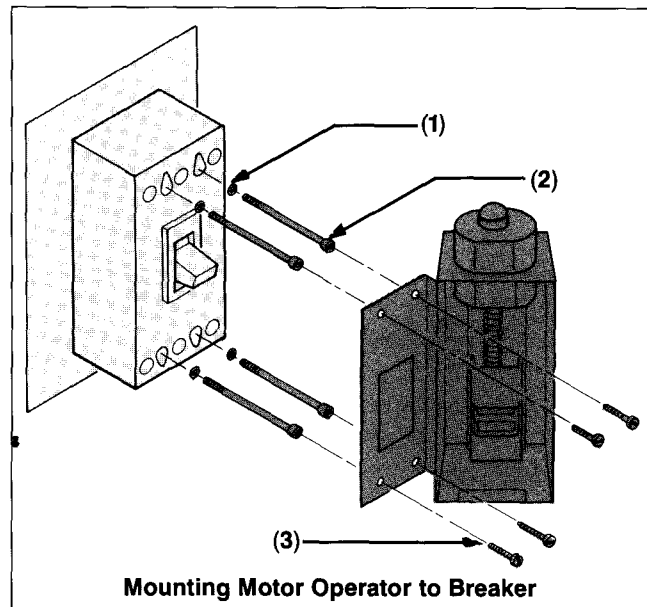
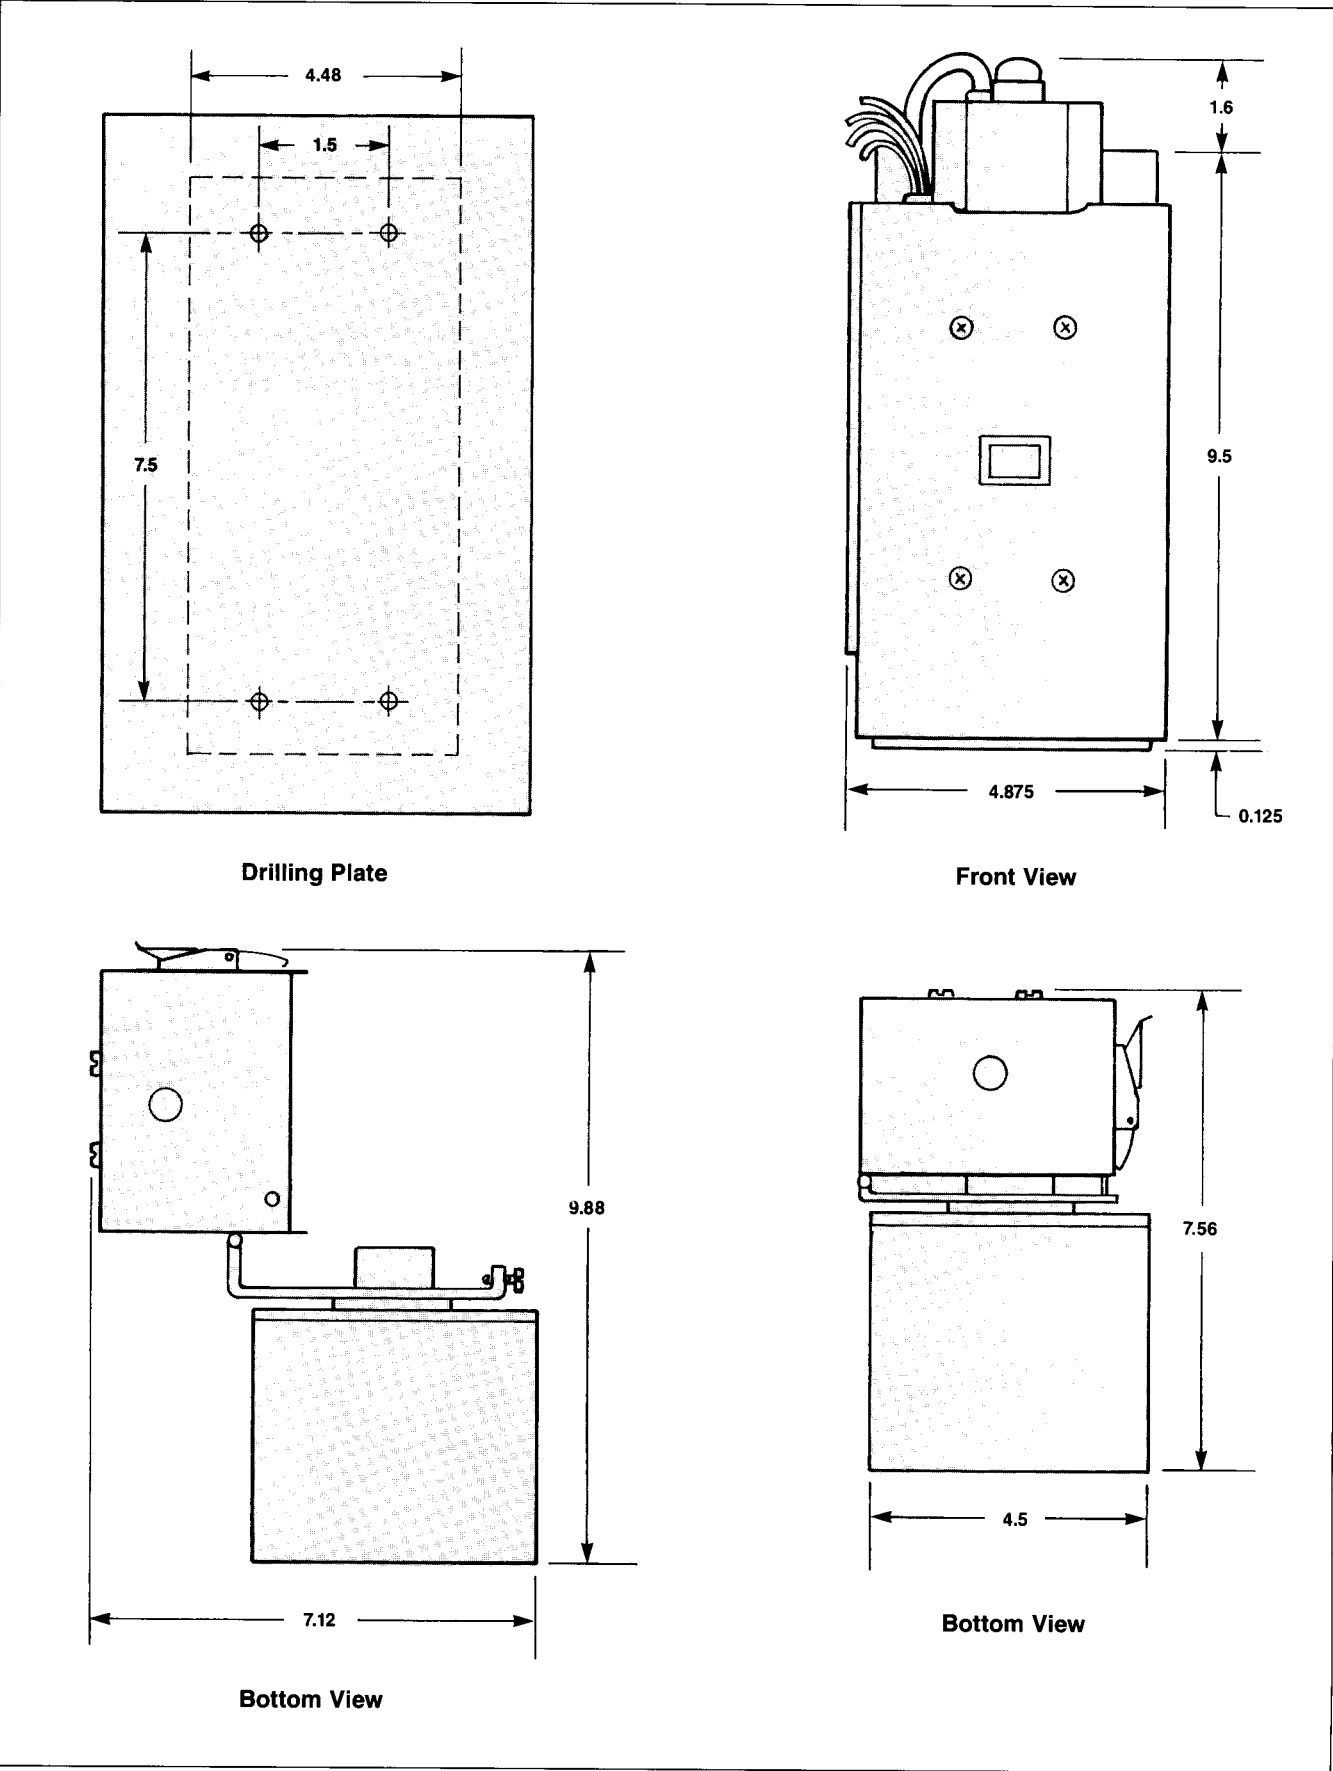

Figure 1
Figure 3
- Attach the circuit breaker to its mounting surface using the mounting washers (1) and mounting screws (2) supplied with the motor operator (Figure 1). Refer to installation dimensions (Figure 3).
- With its cover open, attach the motor operator to the circuit breaker using four #10-32 truss head mounting screws (3) provided (Figure 1).